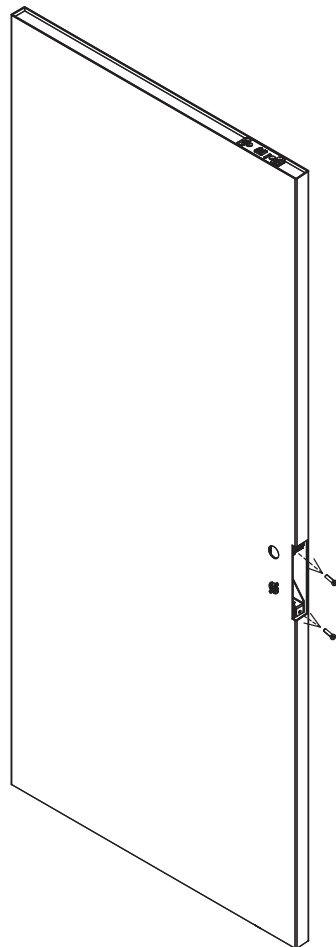
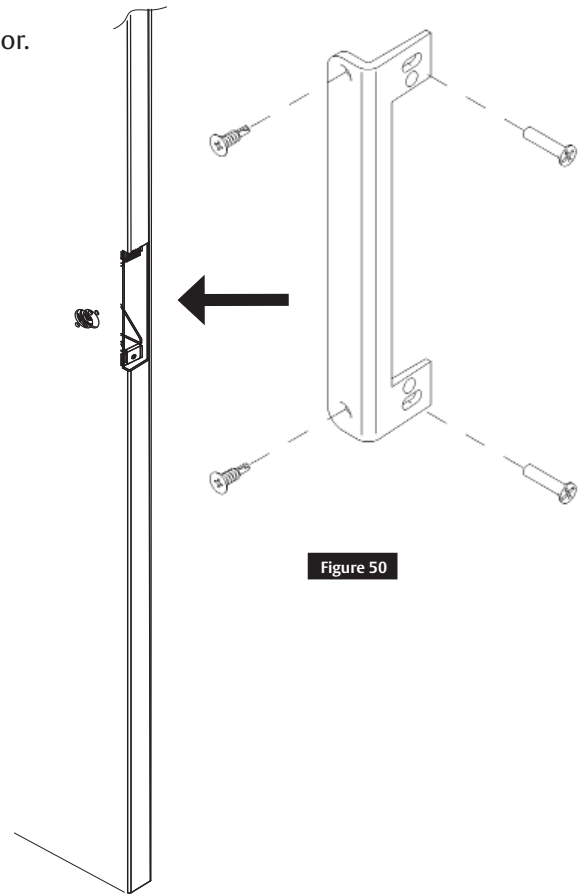

Figure 51
Figure 50
- Remove the two (2) #12-24x1" flat head LBC mounting screws that are securing the lockbody case in the door. (Figure 50)
- Reinstall two (2) #12-24x1" flat head LBC mounting screws (DO NOT FORCE).
- Install two (2) #12x1/4" self tapping screws through mortise reinforcer into the face of the door. (Figure 51)